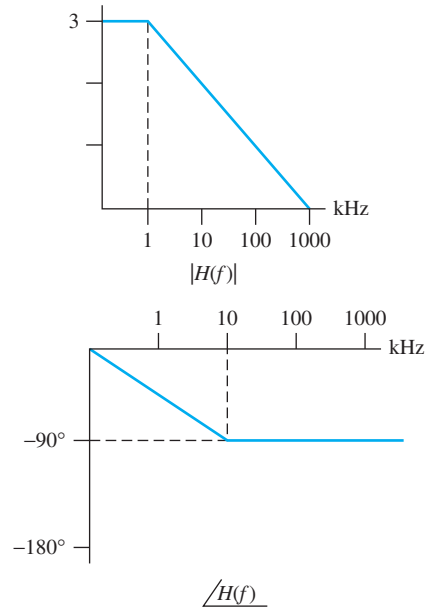

FIGURE P7.21 Frequency response for Problem 7.21.
7.21 (A) Find the output of the filter represented by the frequency response in Figure P7.21, given the input: